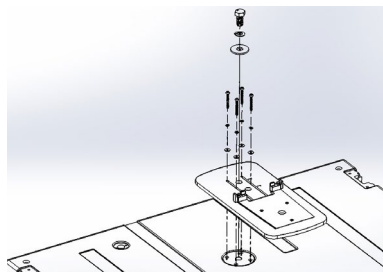

Figure 5 - Attach Mount Plate
3. Attach Mount Plate (D) to the top of SBX218/SBX118/RSX18F (Figure 5)
- Lock into place with M6 screws (J), lock washer (K) and flat washer (L)
- Secure mount with M20x40 Screw (F), lock washer (H) and flat washer (I)
- If using older pole cup design for SBX118 & SBX218, M20x90 screw (G) will need to be used in place of M20x40 (F)
- Alternately, K&M Pole Adapter Bolt #245026 may be used with M20x40 screw (G) instead of using M20x90 screw (G)